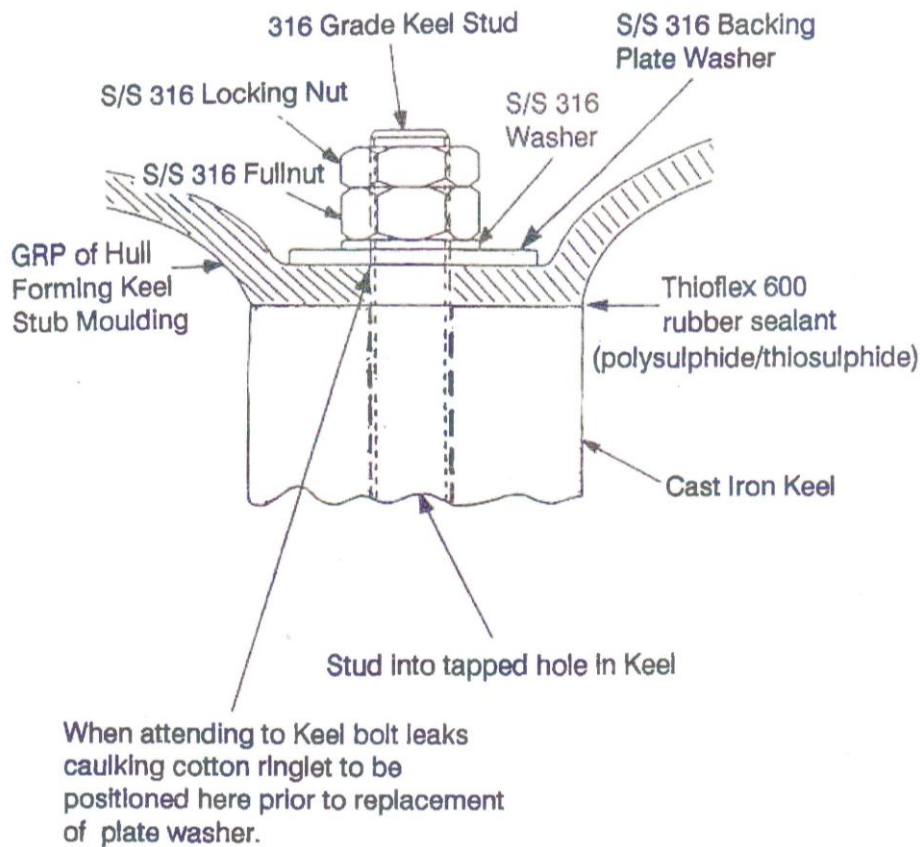

Fig. 1 - Typical Keel Bolt Installation
- 2 Undo the locknut, using the correct sized socket or spanner (Fig. 1).